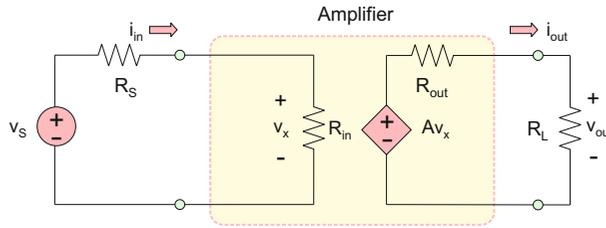

Fig. 5.5. Amplifier circuit model with connected source and load resistances.
this, it also leads to the fact that the voltage across any load connected to the amplifier’s output will *not* be equal to the desired output voltage given by Eq. (5.1), except for an open circuit. These limitations are quantified when we consider a circuit shown in Fig. 5.5. The circuit includes the amplifier model, an arbitrary source represented by its Thévenin equivalent  $v_S$ ,  $R_S$ , and a load represented by its equivalent resistance  $R_L$ .
Using the voltage division principle twice, the output voltage in Fig. 5.5 is expressed as
**Exercise 5.2:** For the amplifier circuit in Fig. 5.5 with  $A = 1000$ , determine the output voltage given that  $v_S = 1 \text{ mV}$ ,  $R_S = 50 \text{ } \Omega$ , and  $R_L = 50 \text{ } \Omega$  for two cases:
Property 1 follows from property 3 and vice versa. One more condition of the ideal-amplifier model could be added, namely, that the power rails  $\pm V_{\text{CC}}$  are exactly reached when operated in saturation. The ideal-amplifier model does not use the accurate internal amplifier circuit shown in Fig. 5.4 or in Fig. 5.5, respectively. Instead, a simple triangle symbol may be used for the ideal amplifier, which is shown in Figs. 5.1 and 5.3.